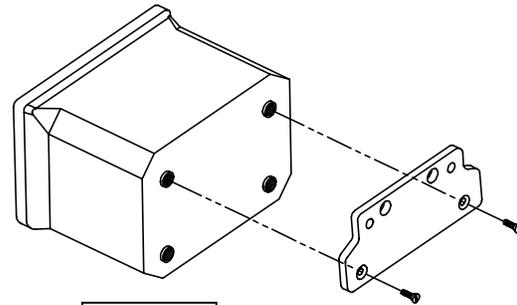

Figure 6
1. Securely fasten both mounting brackets (included with the 6502) to the back of the 6502 Breakout Box as shown in Figure 6, with the mounting screws provided.